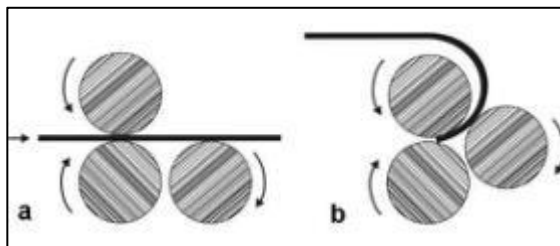

Figure 14
3. Operate handle; when the material reaches the point where the radius is to begin (a, Figure 14), stop the machine and raise the idle roll an equal amount oneach end to achieve desired bend.
4. Restart rolls and continue until bend is completed (b, Figure 14). Support workpiece as it exits machine.